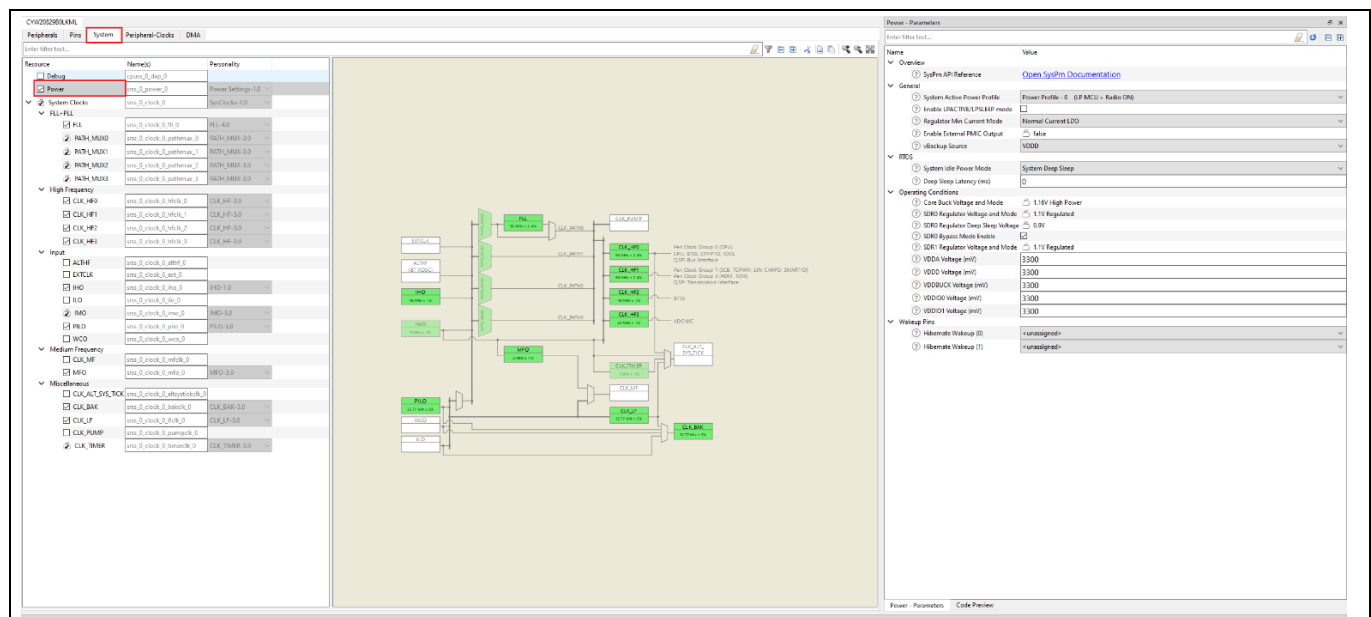

Figure 5 CYW20829 power mode selection
4. Select the power subsection under System to view configurable power parameters available in CYW20829 as shown in Figure 5.